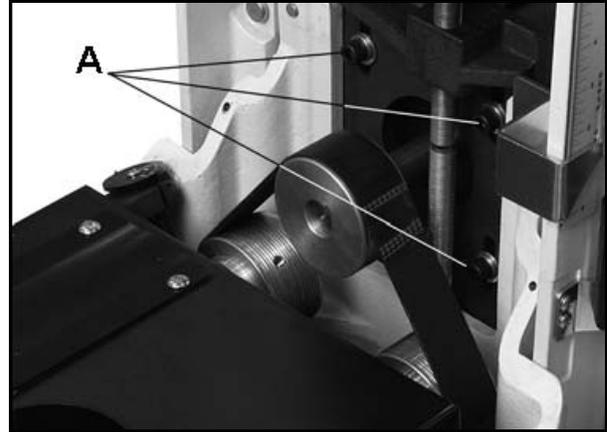

Figure 25
2. Loosen the four cap screws (A, Figure 25) securing motor to motor plate.